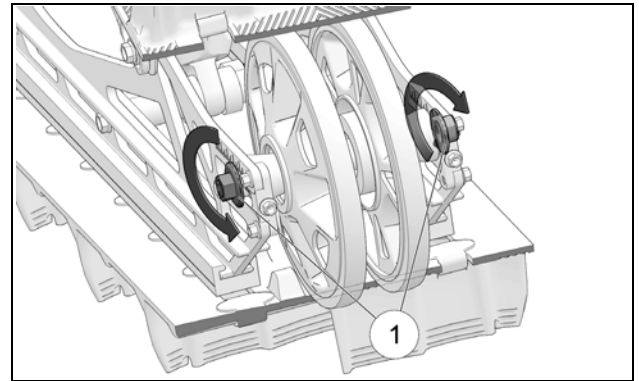

Figure 43
CAUTION: The two rear wheel assembly axle nuts (1) must be loosened before adjusting Track tension. See Figure 43.